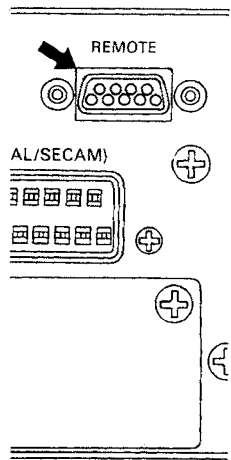

Figure 4.29
4.10 Remote Control (See Figure 4.29, 4.30, Table 4.8 and 4.9)